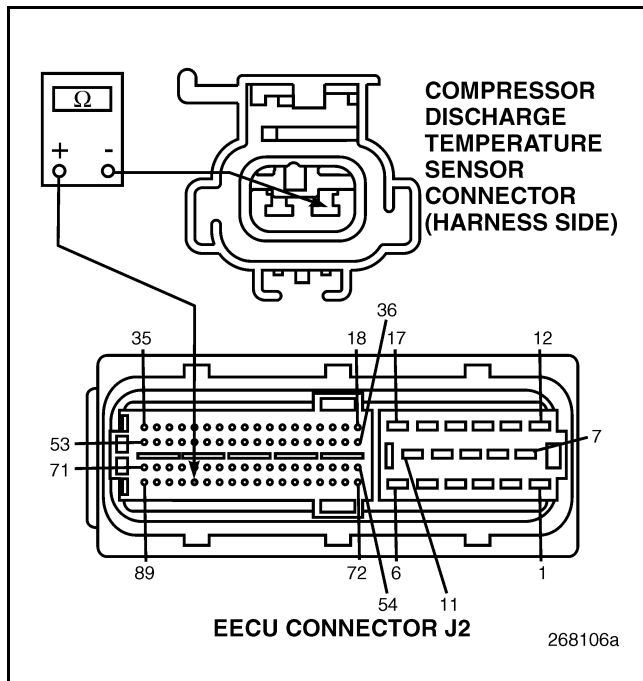

Figure 823
4. Check for continuity between pin 1 of the CDT Sensor harness connector and EECU harness connector J2 pin 85 (see Figure 823).